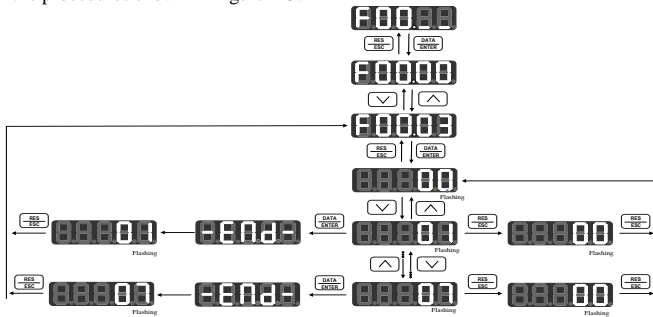

Figure 4-5 Parameter Saving and Resetting Procedures
- Follow the viewing procedures to enter the function code first, and then edit the parameter as per the procedures shown in Figure 4-5.
■ Take F00.03 for instance, its original parameter value is 0, save or reset the parameter as per the procedures shown in Figure 4-5.